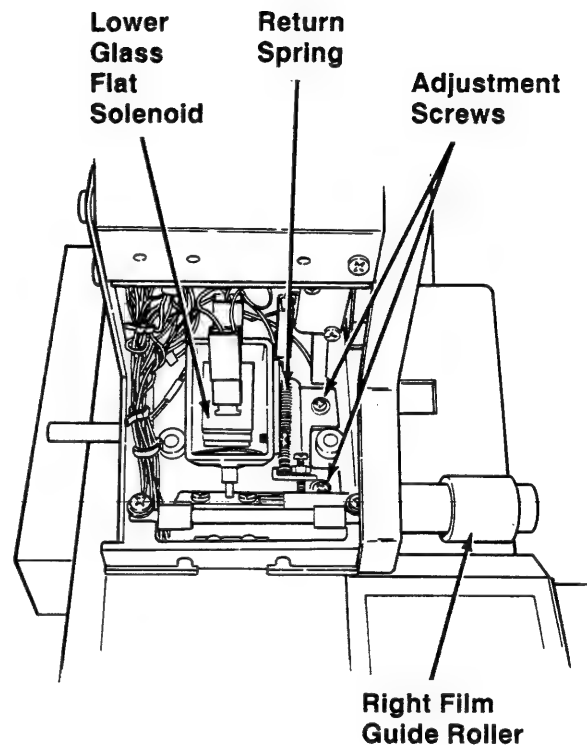

Figure 3-1A
5. Loosen the Adjustment Screws securing the Lower Glass Flat Solenoid (Figure 3-1A) and move the solenoid to the left to cause the Lower Glass Flat to open further.
7. Move the right end of the Return Spring (Figure 3-1A) to a hole further to the right to increase tension.